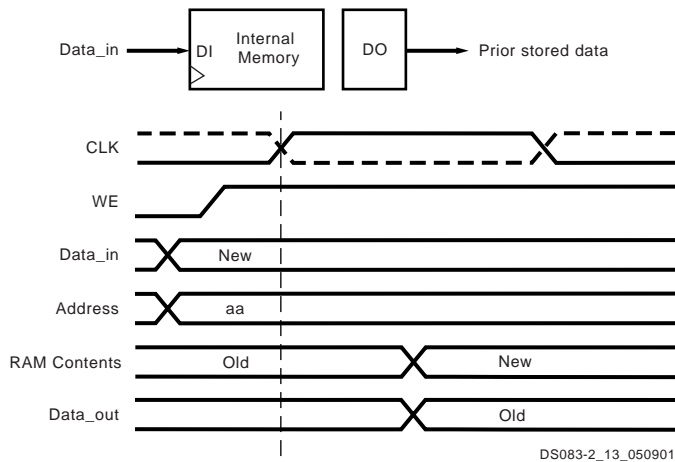

Figure 38: READ_FIRST Mode
The same clock edge that writes data input (DI) into the memory also transfers the prior content of the memory cell addressed into the data output registers DO, as shown in Figure 38.